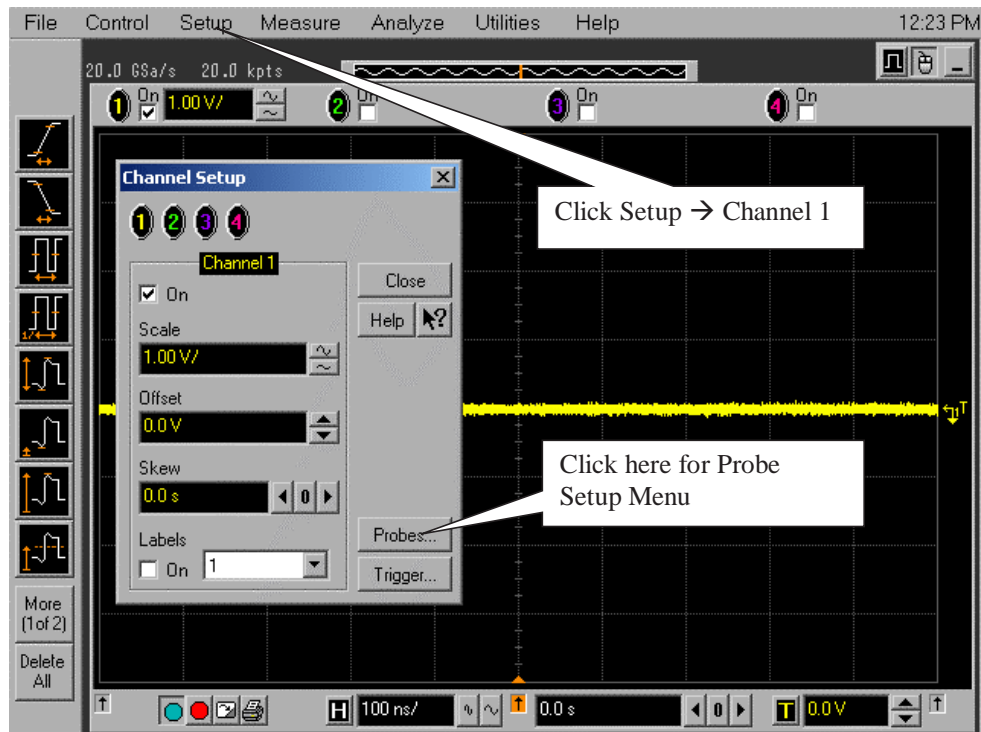

Figure 290 Channel Setup Window.
- 2 Referring to **Figure 290** below, perform the following steps:
- 16 Click the Close button on the Channel Setup window (Figure 290 on page 618) to close this window.